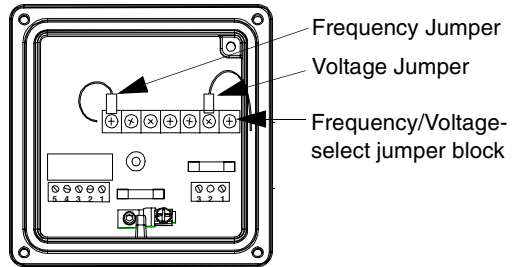

Figure 1-3. Logic board
EC-2 fixtures are shipped with a package including one 120 ohm resistor for terminating the fixture. When mounting the fixture in a standalone application, the termination resistor must be attached to pins 2 and 3 of the data connector as shown in Figure 1-3). If you are adding the EC-2 to a link, see “Terminating the Link” on page 1-6.
3. Locate the voltage and frequency jumpers on the logic board (see Figure 1-3).